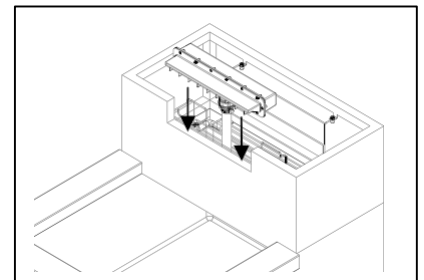

Fig. 7
- Place the spillway back inside the patio pond. Fig. 7